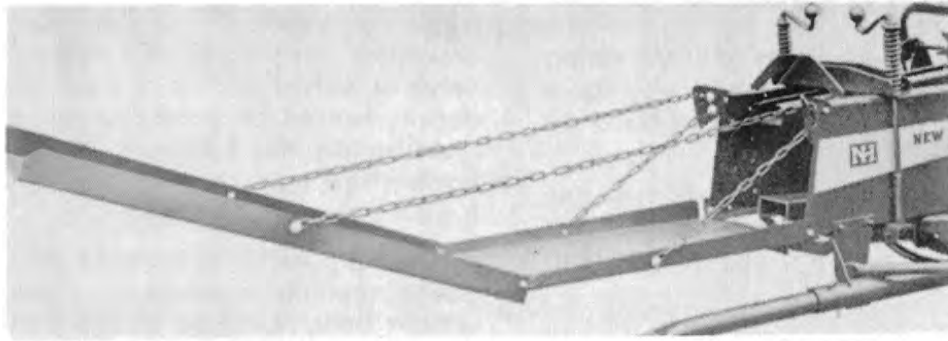

FIGURE 60
**WAGON HITCH AND LOADING CHUTE** — See Figure 60. The loading chute slides the bales up a chute on to a wagon. The telescoping wagon hitch attaches directly to the bale chamber.